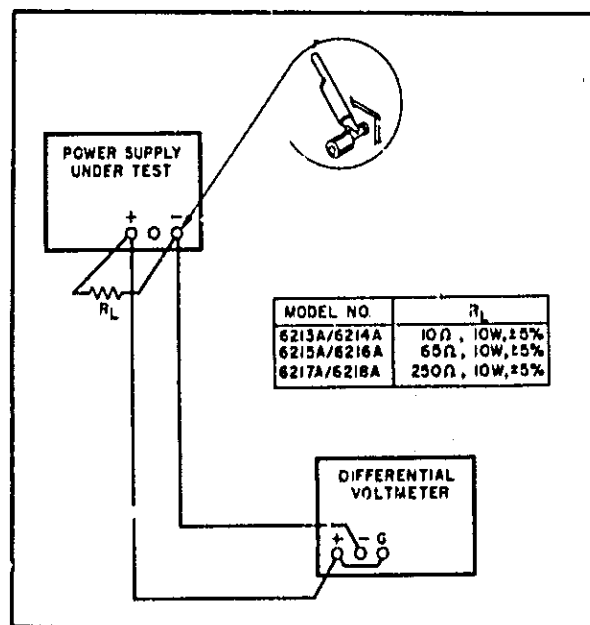

Figure 5-3. CV Load Regulation, Test Setup
a. Connect load resistor (R_L), indicated in Figure 5-3, across the output terminals of supply.
a. Connect test setup as shown in Figure 5-3.
b. Connect test setup shown in Figure 5-3.
- Connect the load resistance, attenuator, and differential voltmeter as illustrated in Figure 5-3.